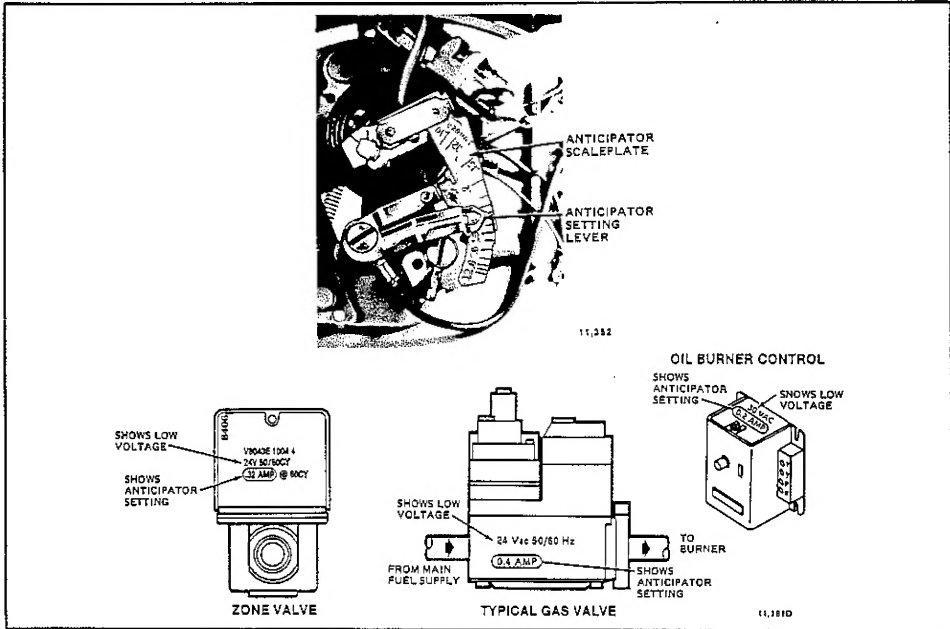

Fig. 6—Setting heat anticipator.
- ☐ Move heat anticipator lever to match the current draw (Fig. 6), except in single-stage heat pump systems. In these systems, set the anticipator at 1.4 times the actual current draw to reduce the cycling rate.